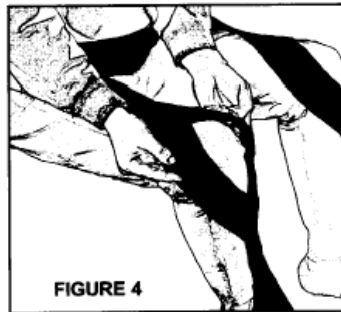

FIGURE 4
4. Draw the elastic bands apart and slide the knee cone onto your knee so that the knee presses through the opening. See Figure 4. Make sure the logo is facing up.